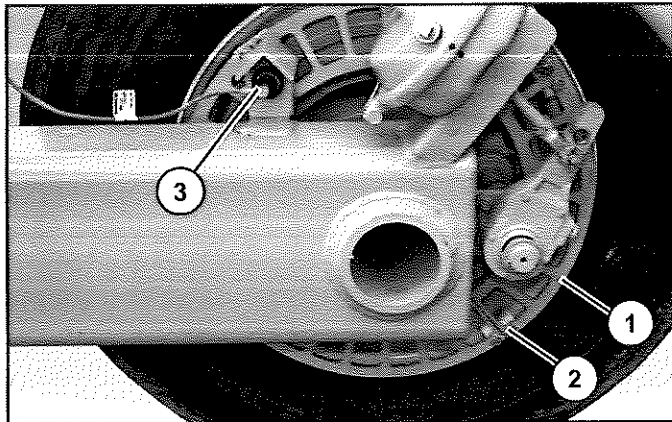

Figure 89
5. Remove the bolts (Item 1) securing the counter wheel (Item 2) (Figure 89). Remove the radial proximity switch.